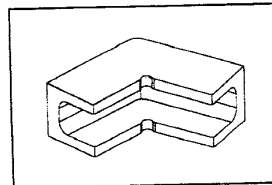

FIGURE 9-1
- 9.1 For straight eave installation, the splice channel (HN1006), is used to join the front and roof glazing bars. See **Figure 9-1**.